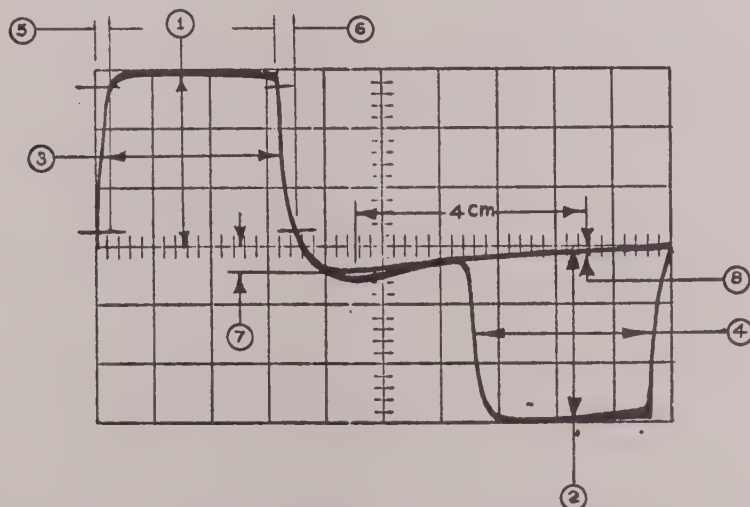

Figure 8: Bipolar Waveform
- c. Adjust the Oscilloscope for a vertical sensitivity of 0.05V/division and a sweep-rate of 0.1 μ sec/division (magnifier off). Adjust the trigger, intensity, and position controls to obtain the waveform shown in Figure 8.
- d. The measurements designated (1) and (2) in Figure 8 should be between 2.7 and 3.3 cm (1.35 and 1.65 volts). Measurements (1) and (2) should differ by not more than 0.15 cm (0.075 volts).
- e. Measurements (3) and (4) should be between 3.0 and 3.5 cm (300 and 350 nsec). Measurements (3) and (4) should differ by not more than 0.15 cm (15 nsec).
- f. Measurements (5) and (6), taken between 10% and 90% of peak points, should be less than 0.8 cm (80 nsec).
- g. Measurement (7) should be between 10% and 30% of the base line to peak reading (nominally 0.3 to 0.9 cm for a 3.0 cm peak).
- h. Measurement (8), taken 4.0 cm to the right of the point of measurement (7), should be less than 10% of measurement (7) (Note: It may be necessary to increase the vertical sensitivity in order to make this measurement.)
- l. Remove the three terminations one at a time observing the Oscilloscope trace. The trace should not be altered as the terminations are removed. Finally, move the Tapped Termination to one of the three other output jacks. The waveform of Figure 8 should reappear on the Oscilloscope.